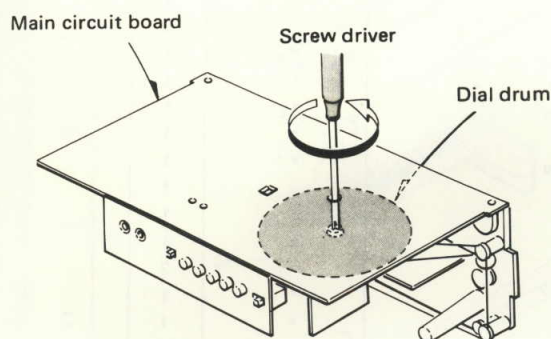

Fig. 11
1) Unfasten the screw. (See figure 11)